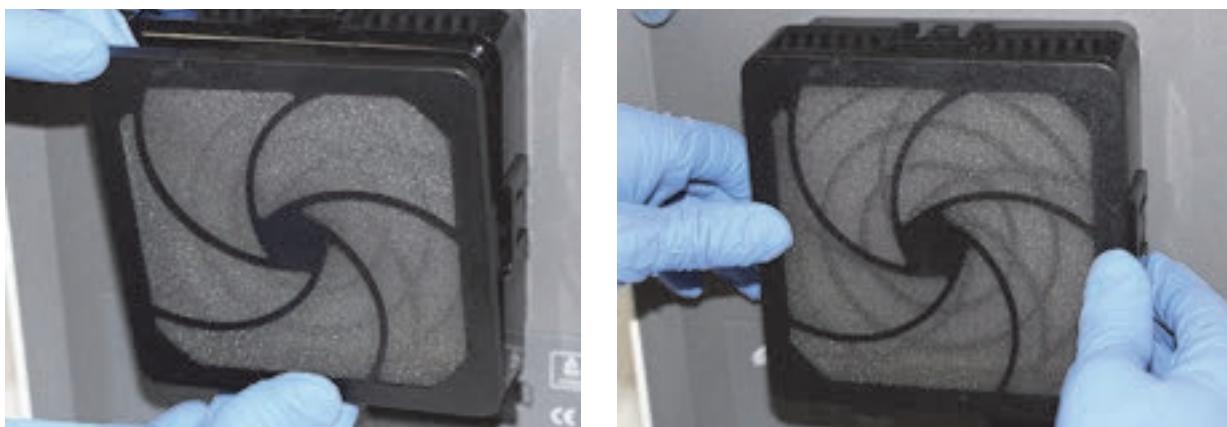

Figure 9-31. Replacing the Prefilter and the Prefilter Retainer
4. Place the assembled prefilter retainer and the prefilter together on top of the HE filter retainer with fingers at sides, top and bottom so it fits tightly. See Figure 9-31.